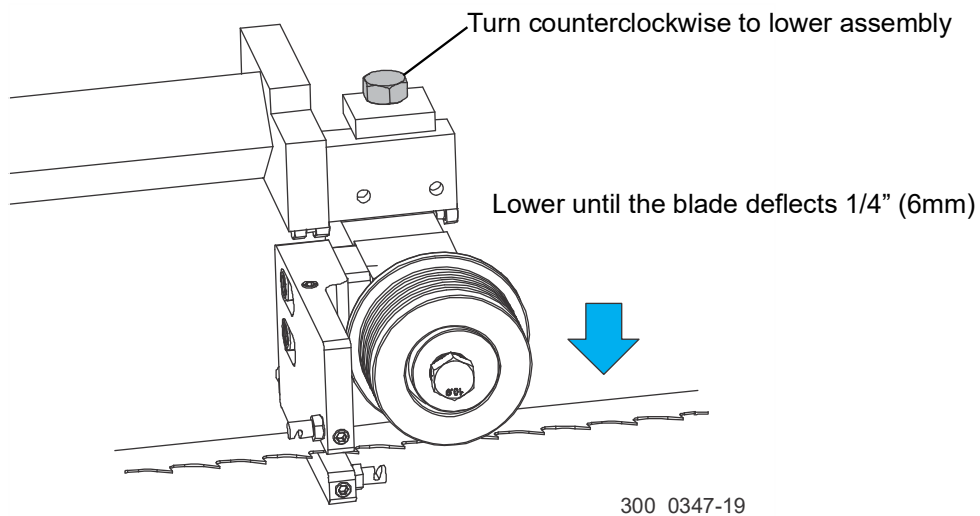

FIG. 3-39
3. Repeat for other blade guide assembly. See Fig. 3-39.